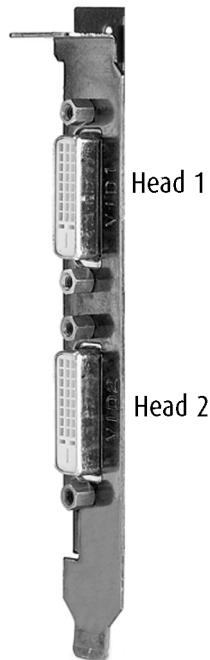

Figure 6: The Video Outputs.
6. Connect the primary display (left most display in a linear configuration, top most in a vertical configuration) to the uppermost connector on the BarcoMed 5MP2FH (the output farthest from the motherboard – “**Head 1**” in figure 6 on page 41) using the provided DVI cable. For a dual-headed BarcoMed 5MP2FH setup, connect the secondary display to the other connector on the display controller.